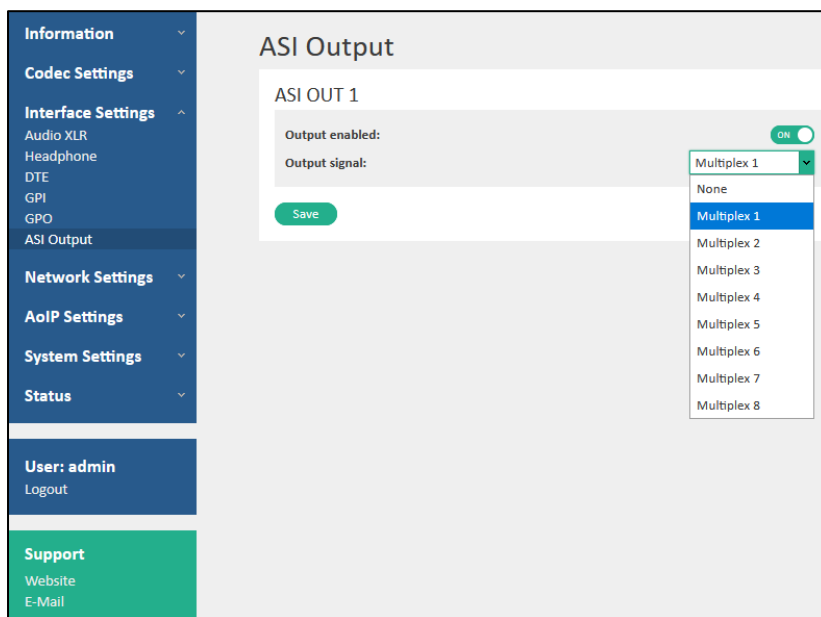

Figure 76: ASI Output Settings
1. Select **Interface Settings** → **ASI Output** (see Figure 76).